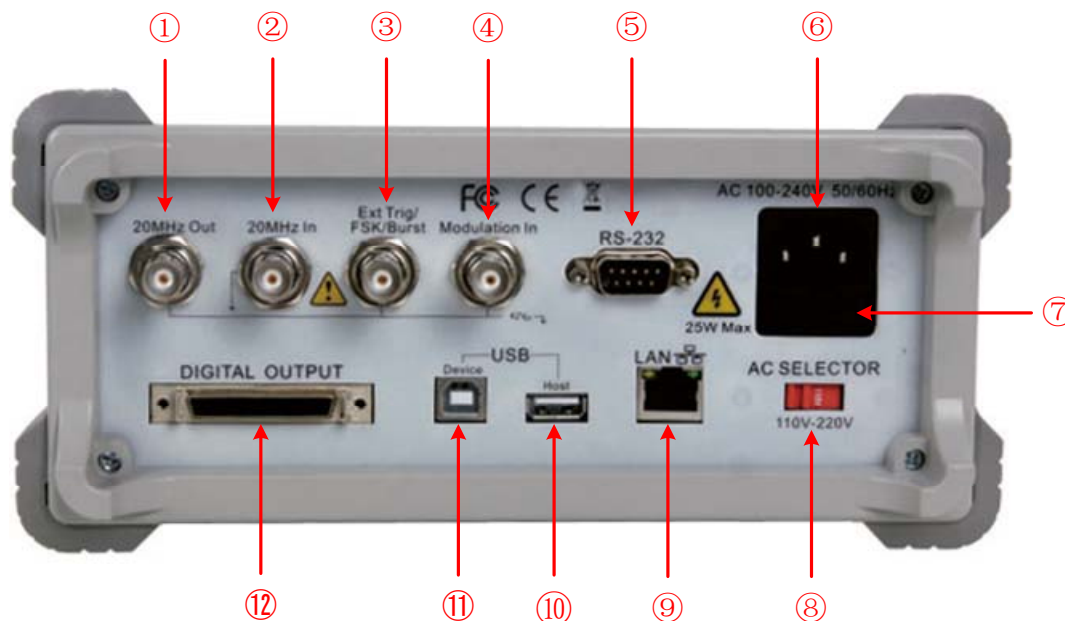

Figure 4-2 Rear panel overview
ADG-4151 adopt 110V/220V AC power source. Users should regulate the voltage scale of the **Power Switch** according to the standards in their own country (see Figure 4-2) at the rear panel and use an appropriate fuse.
- (1) Turn off the power button at the front panel and remove the power cord.
- (2) Check if the fuse installed before leaving factory (250 V, F2AL) can match with the selected voltage scale; if not, pry the cover open using a straight screwdriver (see ⑦ in Figure 4-2), change the fuse.
- (3) Regulate the **Power Switch** to the desired voltage scale.